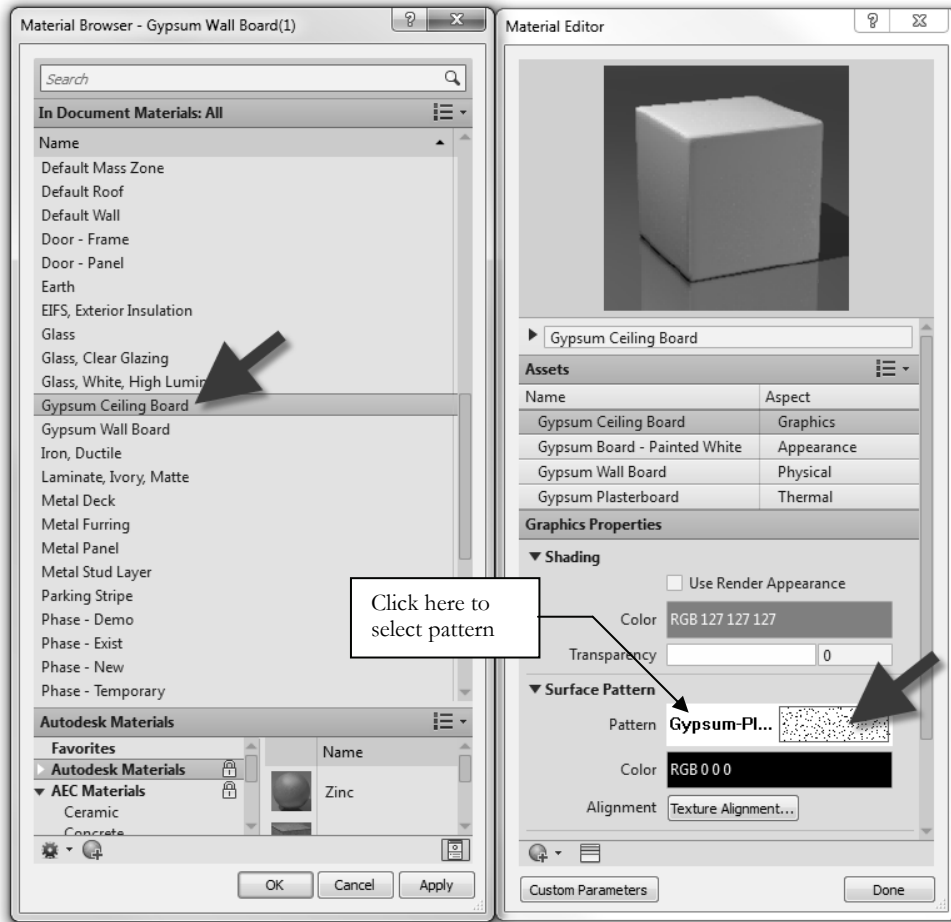

FIGURE 7-4.8 Materials dialog
14. Select *Gypsum Wall Board* in the *Name* list and then right-click; select **Duplicate**. Right-click and rename the new *Material* to: **Gypsum Ceiling Board** (see Figure 7-4.8 and image to right).
15. In the *Surface Pattern* area, pick the button and select **Gypsum-Plaster** from the list, and then click **OK** (Figure 7-4.8).